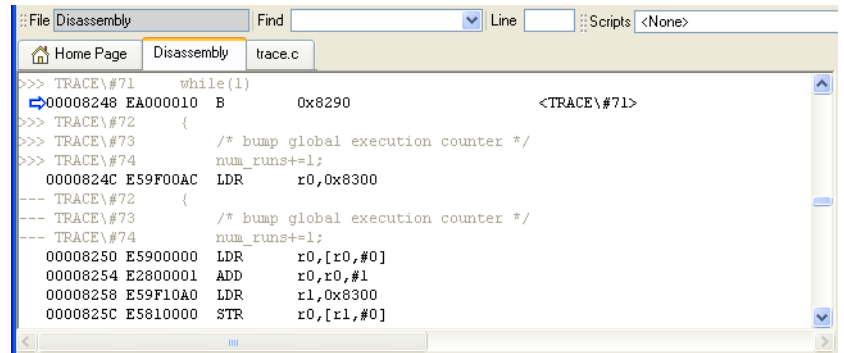

Figure 10-28 Disassembly view
- d. The **Disassembly** tab is displayed, and the corresponding address is indicated by a hollow blue arrow. Figure 10-28 shows an example: